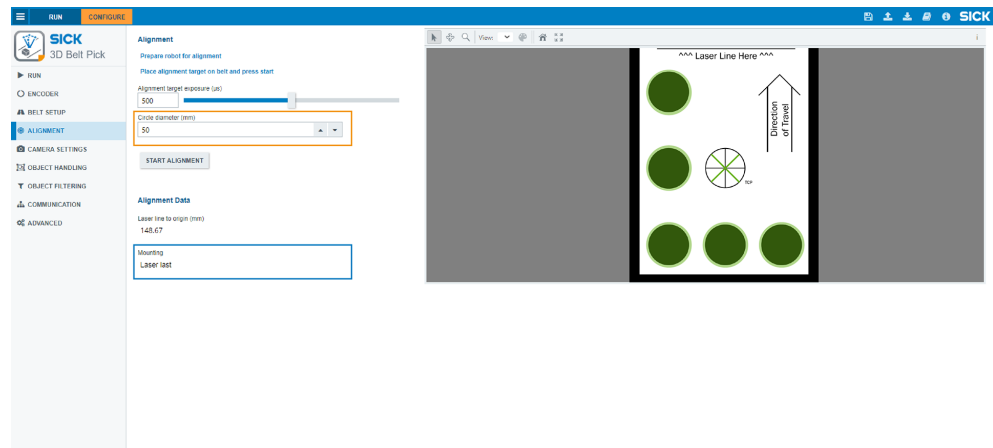

Figure 15: Alignment tab
2. Measure the diameter of the black circles and enter it in the GUI. (See the orange rectangle in figure 15.)
The camera can be mounted in two different ways: **Laser last** (see the blue box in figure 15) or **Laser first**. Depending on the choice, the view may be mirrored, but it will not affect any data or coordinates.